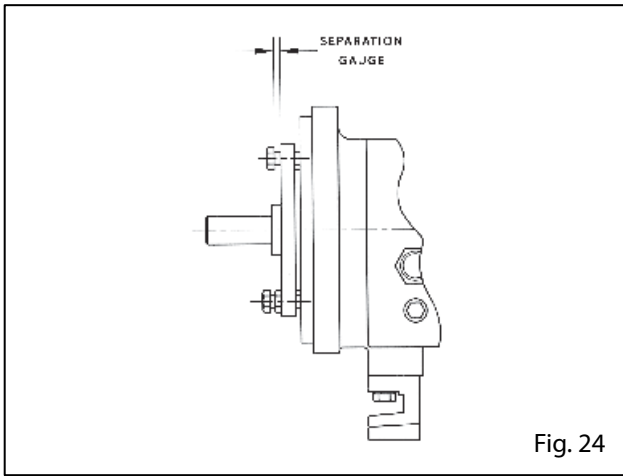

Fig. 24
- 5.- Tighten the leveling screws moving away the bearing support until it makes even contact with fasteners. (See Figure 24).